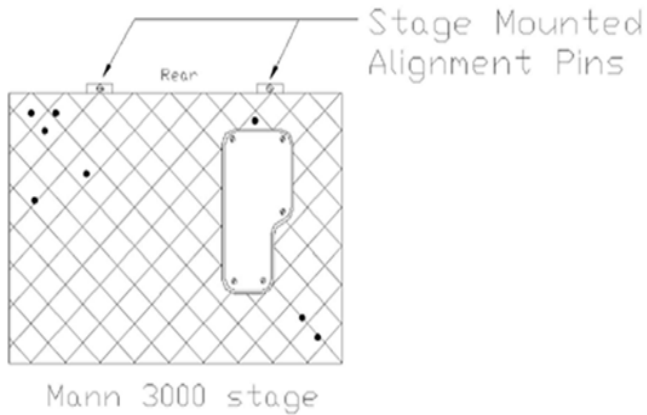
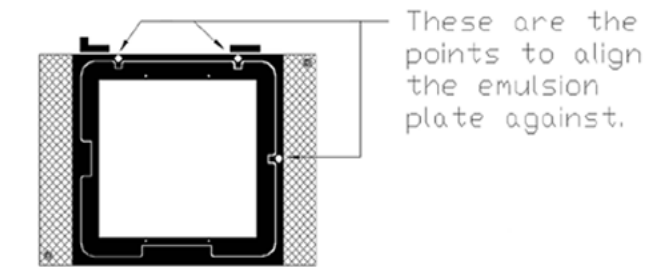

Figure 4 Stage alignment pins
Figure 5 Alignment points for the emulsion plate
- i. There are three small dots on the inside of the plate holder, two on one side, and one on another. (Figure 5) Pick the plate holder up and slightly tilt it so that the emulsion plate is aligned against the two dotted sides of the plate holder.
Note: There are two pins mounted on the rear of the stage. (Figure 4) On the edge of the plate holder, there are two alignment plates. One of the alignment plates is flat and the other has an "L" shape if viewed from the top of the plate holder down. (Figure 5)